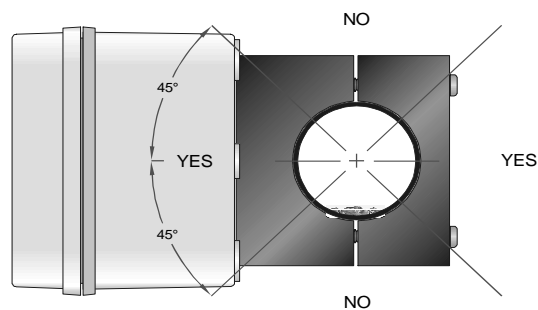

Figure 2
- B. On horizontal pipe, choose a flow meter mounting location within approximately 45-degrees of the side of the pipe. See **Figure 2**. Locate the flow meter so that the pipe will be completely full of liquid when flow is occurring in the pipe. Avoid mounting on vertical pipes where the flow is moving in a downward direction.